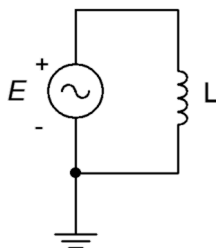

Figure 2.8
13. Draw the voltage and current waveforms for the circuit of Figure 2.8 if E is a two volt peak-peak sine at a frequency of 40 Hz and $L = 33 \text{ mH}$.